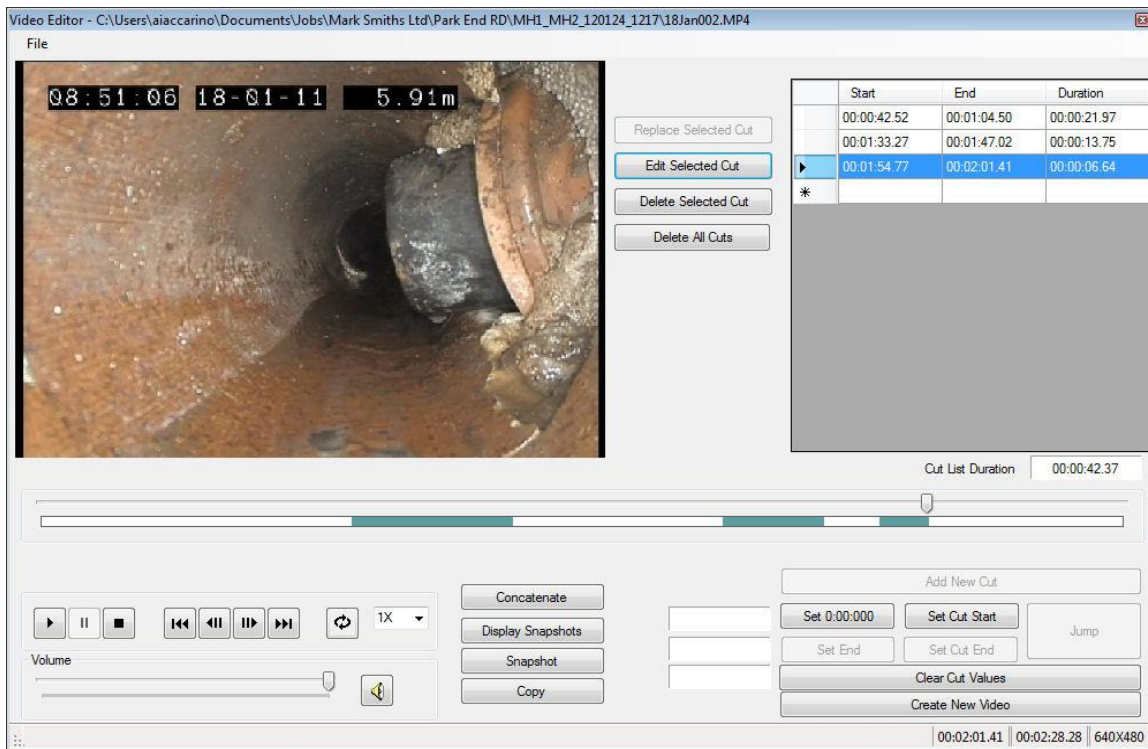

Figure 6.6 Multiple cuts in a video
6. Press the **Add New Cut** button: your cuts will now be shown in the cut table and the portion of the video selected will be highlighted in the color bar (see Figure 6.6).
You can edit or delete cuts present in the cut table (see Figure 6.6).